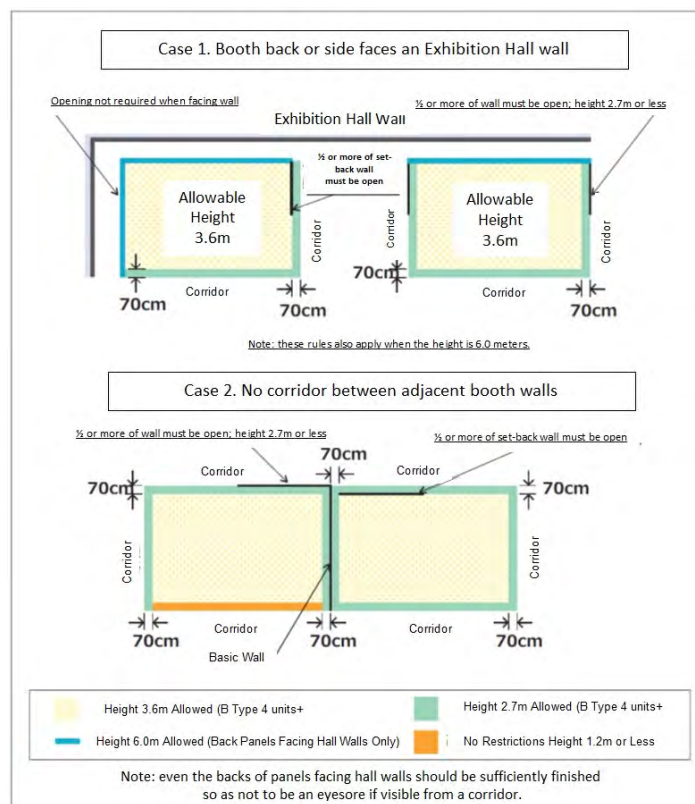
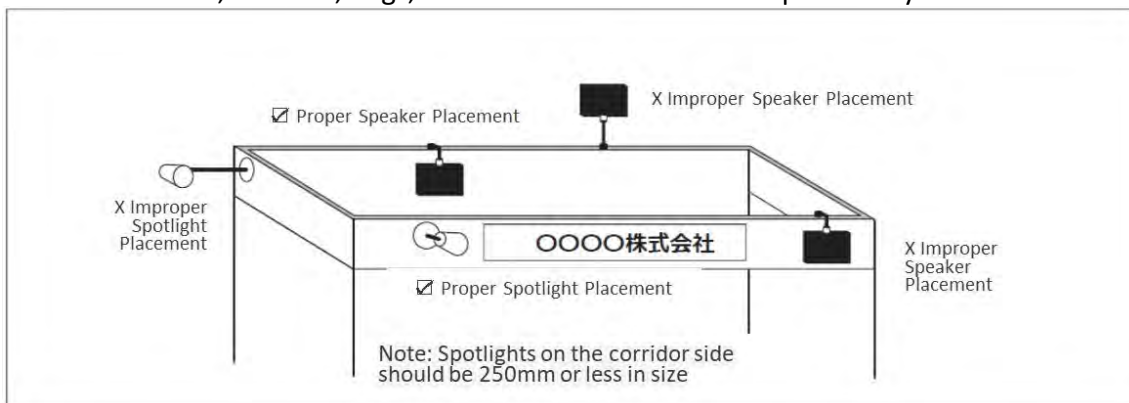

Figure 2. Limitations on Booth Height and Required Openings
Figure 3. Examples of Proper and Improper Placement of Speakers and Spotlights
### (1) Height Restrictions for Booth Structures (Refer to Figure 2)
- \* For exhibitors occupying **four (4) or more Type B booth units in a block (island) configuration**, decorative structures may be constructed up to a maximum height of **3.6 meters**. However, any structure exceeding 2.7 meters in height must be set back **700 mm** from any aisle-facing boundary. No setback is required for structures facing the exhibition hall walls.
### (2) Wall Opening Requirements for Booth Structures (Refer to Figure 2)
(3) Construction of Ceilings
(4) Decorations and Installations in Booths
- Speakers, spotlights, borders, company signs, and all other decorative elements must be installed entirely within the booth area in accordance with the exhibition regulations (see Figure 3).